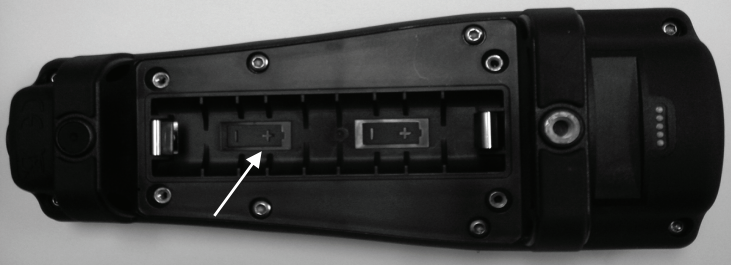

Figure 1, Pro20 with battery cover removed. Note battery symbols indicating polarities.
- 4) Install the new batteries, ensuring correct polarity alignment (Figure 1).